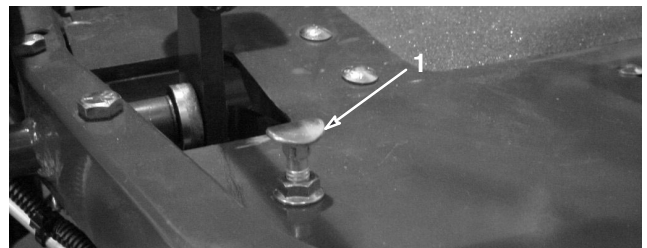

Figure 55
To obtain maximum transport speed, put the functional control lever in the transport position and press down on the traction pedal. If the pedal contacts the stop (Fig. 55) before tension is felt on the cable, an adjustment is required:
1. Put the functional control lever in the transport position and loosen the locknut securing the pedal stop to the floor plate (Fig. 55).